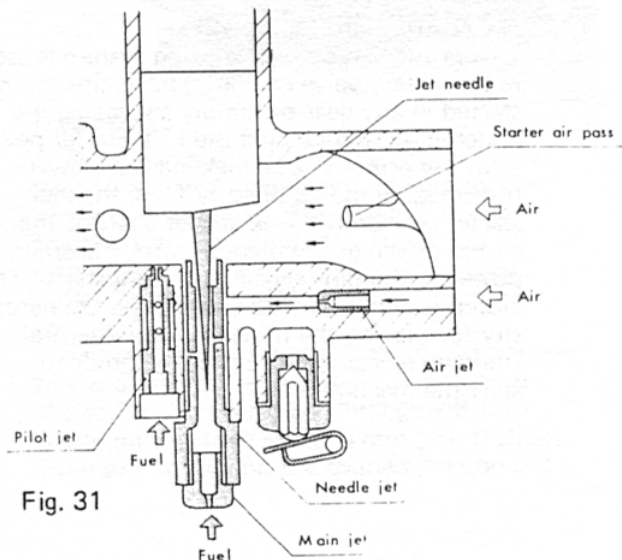

Fig. 31
B. Idling (all models) (Figure 31)